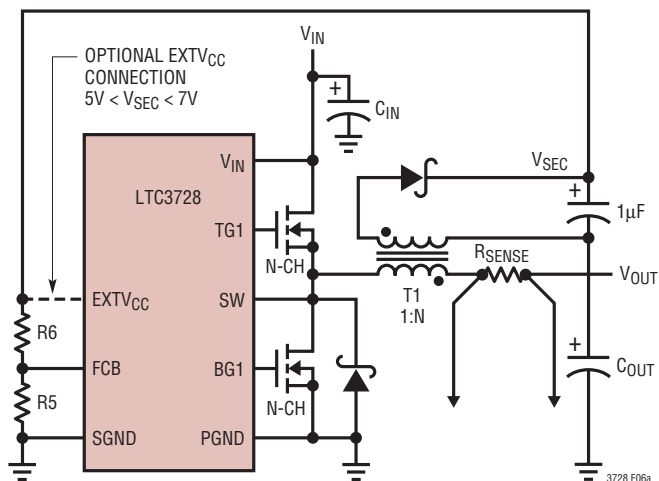
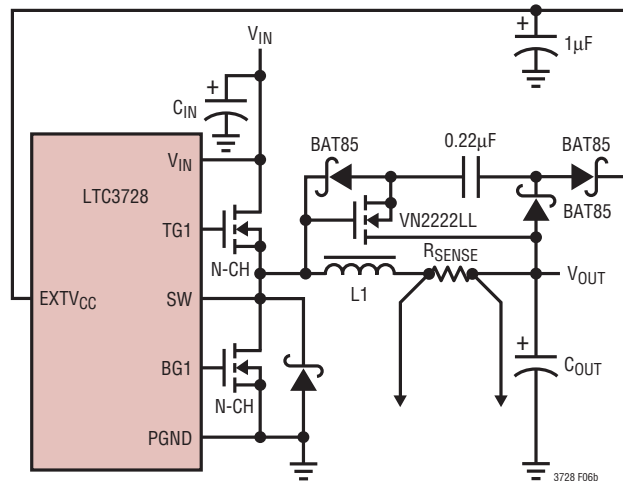

Figure 6a. Secondary Output Loop and  $EXTV_{CC}$  Connection
Figure 6b. Capacitive Charge Pump for  $EXTV_{CC}$
4.  $EXTV_{CC}$  Connected to an Output-Derived Boost Network. For 3.3V and other low voltage regulators, efficiency gains can still be realized by connecting  $EXTV_{CC}$  to an output-derived voltage that has been boosted to greater than 4.7V. This can be done with either the inductive boost winding as shown in Figure 6a or the capacitive charge pump shown in Figure 6b. The charge pump has the advantage of simple magnetics.
The secondary output voltage,  $V_{SEC}$ , is normally set (as shown in Figure 6a) by the turns ratio  $N$  of the transformer: